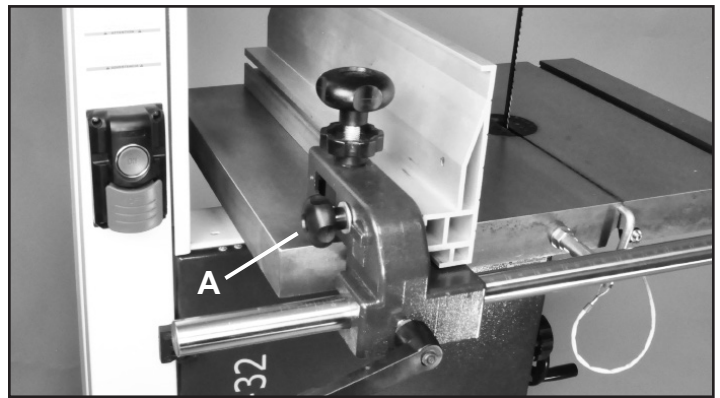

FIGURE 6
2. Slide the Fence Carrier Assembly (#9F) onto the fence's guide rail. Fig. 6.
3. Slide the Rip Fence (#18F) onto the fence carrier, and lock it in place by tightening the fence lock Knob (#7F) which is located on the carrier, opposite side to the fence. Fig. 6, A.